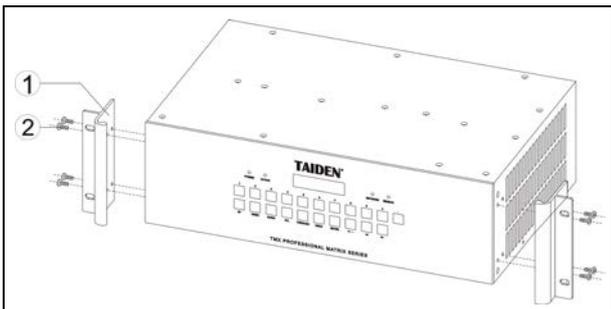

Figure 1.2 Installation
A couple of mounting brackets ① are attached to the product package. First release the screws ② from the lateral sides of the matrix. Bolt on the brackets to the housing by using the screws previously released. Now put the unit into the cabinet, and fix it by screws. As figure 1.2.